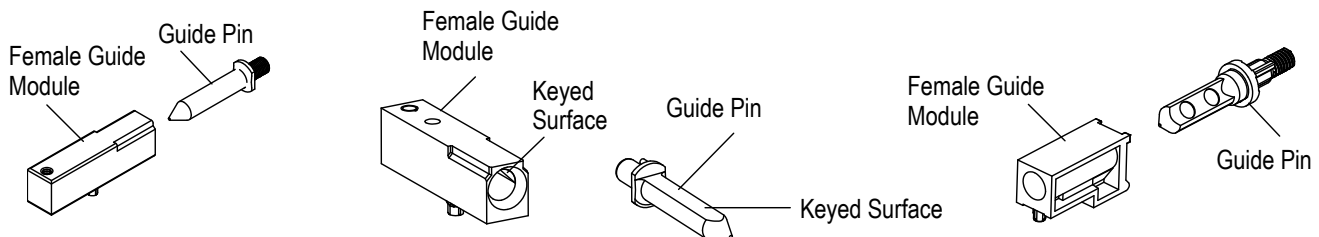

Figure 5
C. Guide Hardware (Figure 5)
The interaction of the guide pin and guide module provide error-free mating and prevents damage to the connectors. Guide hardware is recommended for multi-connector, large and heavy daughter card applications, and conditions where misalignment tolerances given in Section 3.7 cannot be met. Universal and keyed guide hardware are available for proper mating and allow up to ± 3 mm offset for blind mating. The guide hardware consist of a guide pin and guide module. The connectors require 2 guide pins (for the receptacle) and 2 guide modules (for the plug), which must be attached to the respective PWB. Refer to Fig. 5.